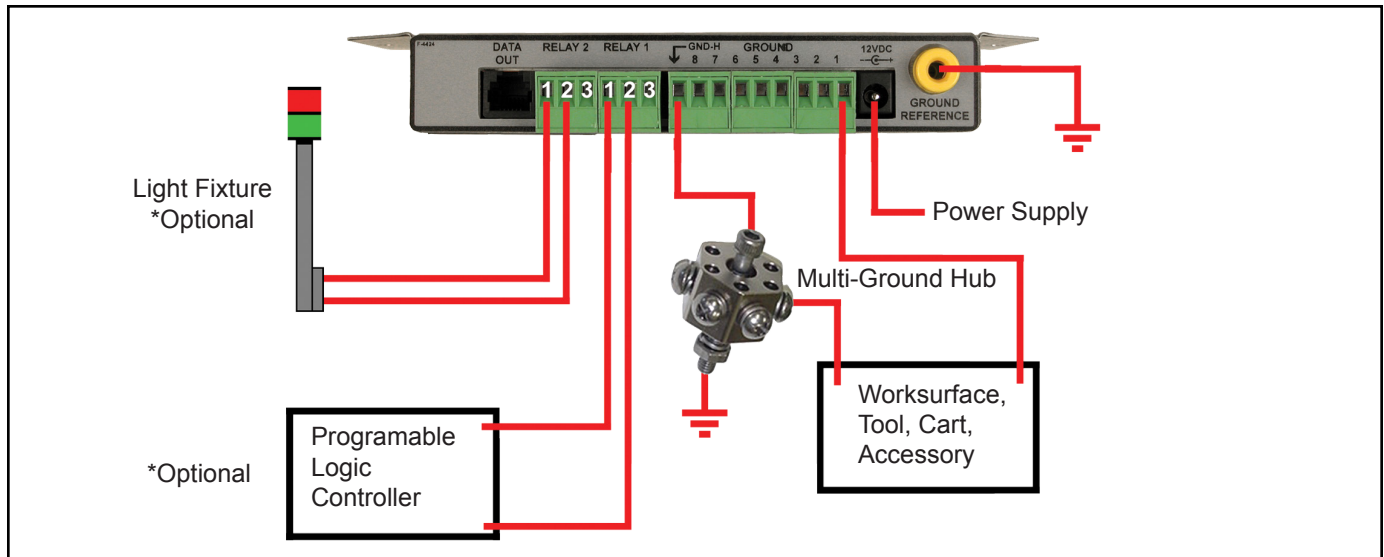

Figure 6. Installing the Multi-Ground Continuous Monitor.
**Installation (See Figure 6)**
The Multi-Ground Continuous Monitor can be set to monitor the resistance of worksurfaces, tools, carts, and accessories using the test ranges of 1 ohm, 1 megohm, 10 megohms, and 35 megohms. It can monitor a combination of 8 items. The following procedure requires items that are not included with the Multi-Ground Continuous Monitor. Use terminals 1-8 on the back of the monitor to connect the item to be monitored to the Multi-Ground Continuous Monitor. One ground wire must be connected to the monitor and the item to be monitored. Another ground wire must be connected to the item to be monitored and the Muti-Ground Hub (see Figure 6).
The Multi-Ground Continuous Monitor can output its test results to a light fixture or programmable logic controller (PLC) using the terminals labeled as "RELAY 1" and "RELAY 2." Refer to Figure 6 and the following information to connect light towers or programmable logic controllers to the Multi-Ground Continuous Monitor.